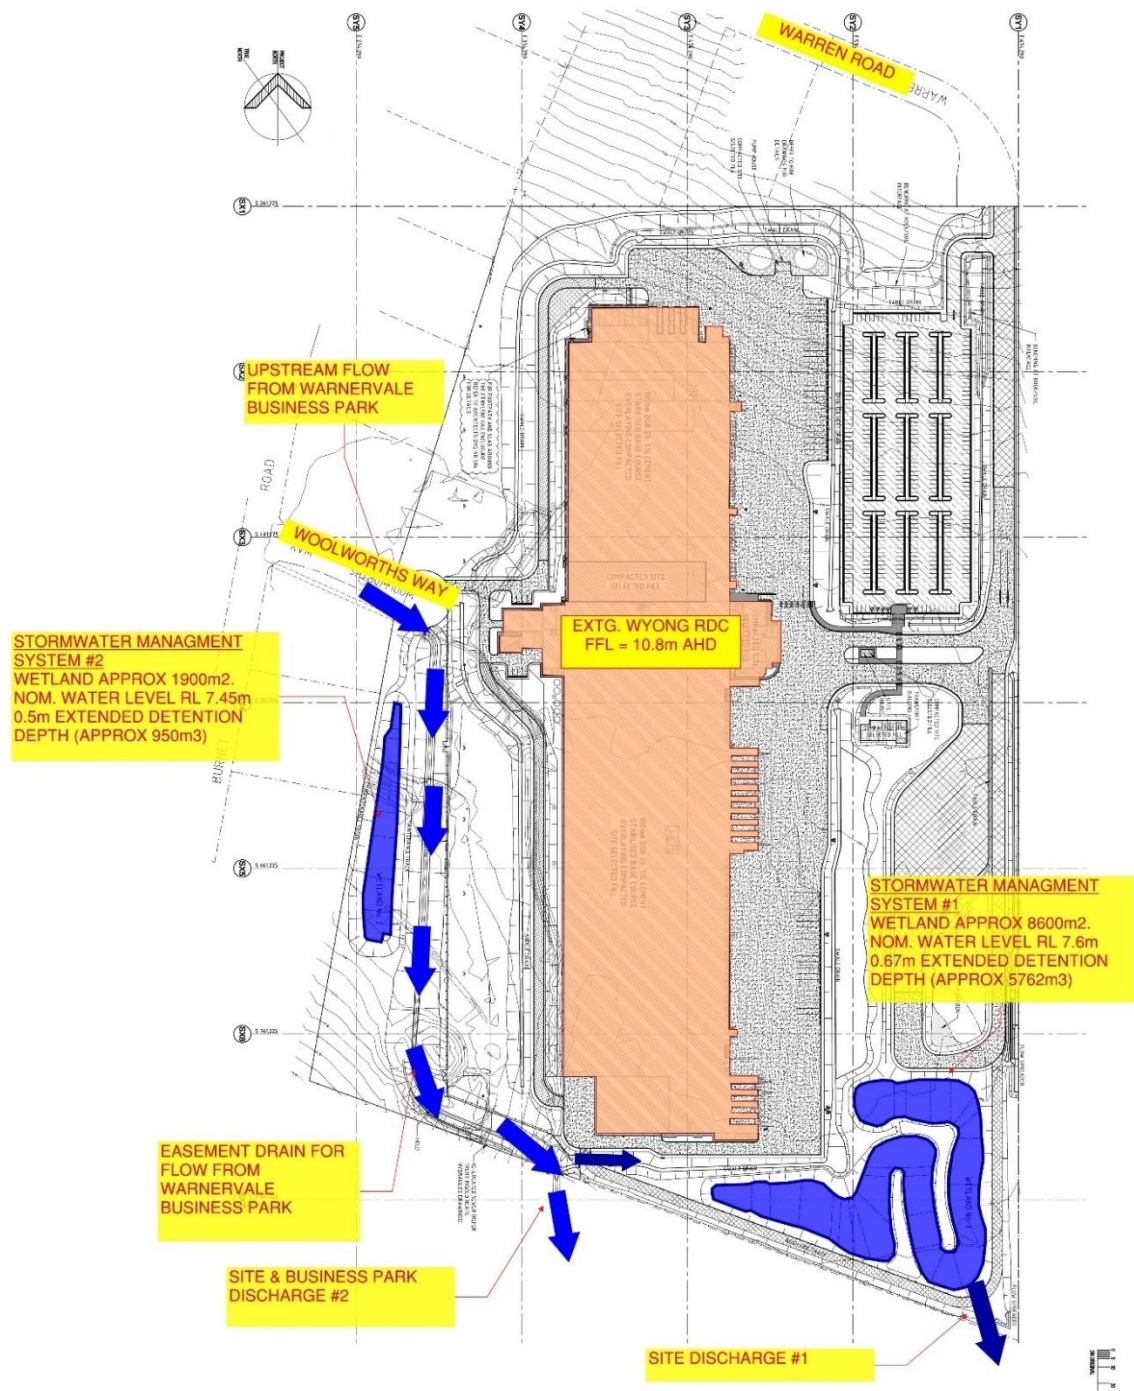

Figure 4.1. Existing Site Drainage Overview Layout
The existing RDC currently includes a detailed site drainage and drainage management system which includes inground drainage, open drainage channels and two stormwater management basins. With reference to **Figure 4.1**, *Stormwater Management System 1*, located on the south-east of the property, comprises a wetland with an area of 8,600m² and extended detention volume of 5,760m³. *Stormwater Management System 2*, located on the south-west of the property, comprises a wetland with an area of 1,900m² and extended detention volume of 950m³. Stormwater runoff is conveyed through the site from north to south to each of the existing management basins, and noted Discharge Locations 1 and 2. Offsite discharge is noted to Porters Creek and a mapped wetland
- Site discharge via the two existing discharge locations (refer **Figure 4.1**).